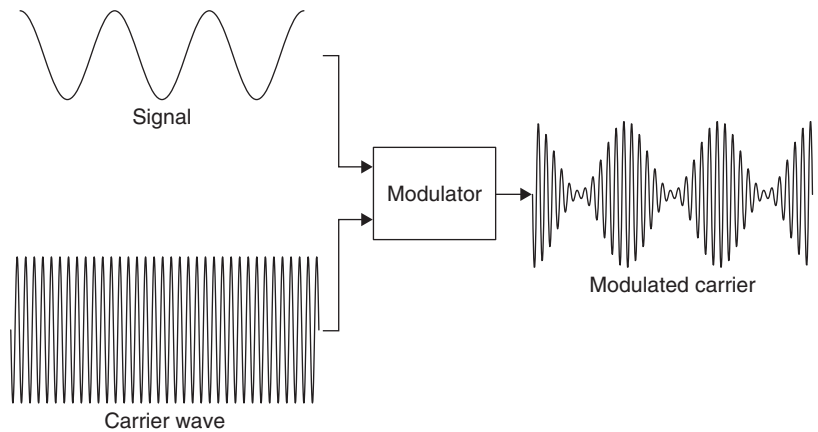

Figure 16.9 Amplitude-modulated carrier
One important method of carrying an audio or video signal using radio waves is called amplitude modulation (AM) (Figure 16.9). An amplitude modulator is a circuit into which two signals are fed: the carrier wave at a high (radio) frequency and the modulating signal at a lower (audio or video) frequency. The output of the modulator is a signal at carrier frequency whose amplitude exactly follows the amplitude changes of the modulating